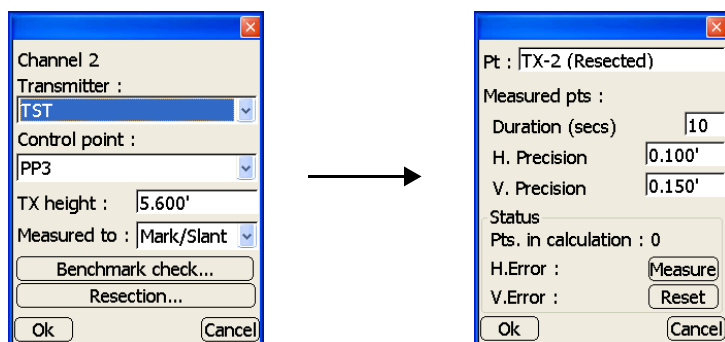

Figure 4-24. Begin Resection
6. Tap the **Resection** button on the *channel setup* dialog box (Figure 4-24 on page 4-28).
7. If desired, enter the following measurement parameters on the *resection* dialog box (Figure 4-24 on page 4-28).